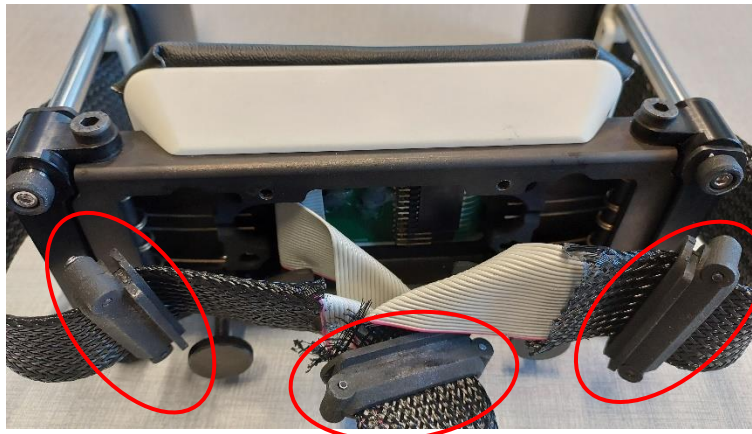

Figure 24. removed cable clamps.
5. Remove the cable clamps from their clamping locations (See Figure 24).